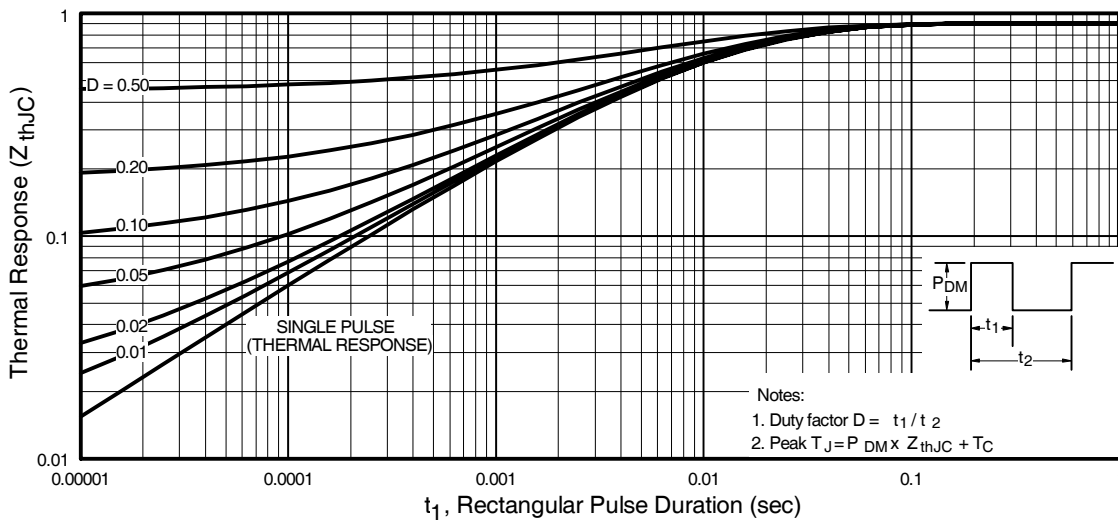

Fig 11. Maximum Effective Transient Thermal Impedance, Junction-to-Case
- ① Repetitive rating; pulse width limited by max. junction temperature. (See fig. 11)
- ② Starting $T_J = 25^\circ\text{C}$, $L = 194\mu H$